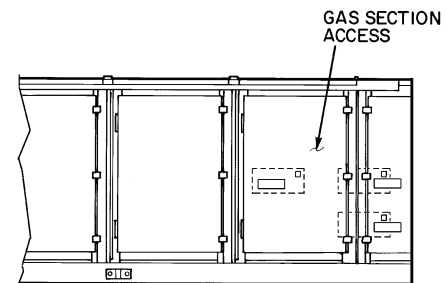

Fig. 5 — Typical Location of Access Panel
4. Adjustment of the air/gas mixture if the burner flames are not bright blue. (See Fig. 5 and 6 for location of access panel and proper flame appearance.)